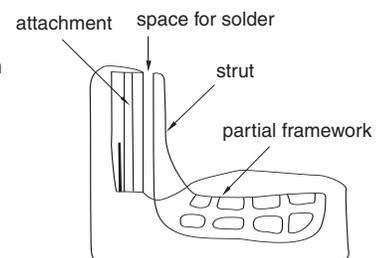

Fig. 22
8. Draw the components off the model and invest them in soldering investment (Fig. 22).